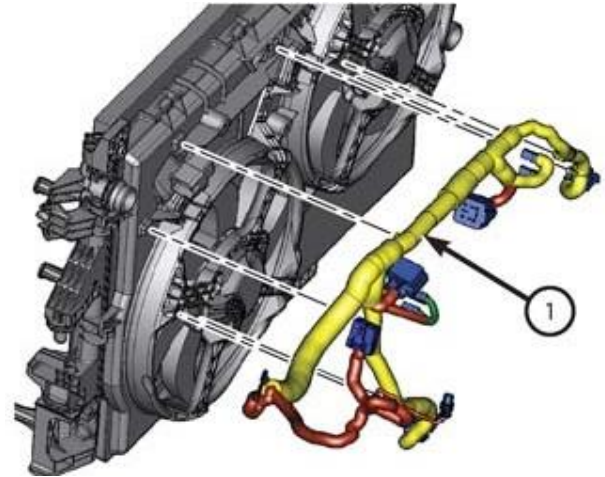

Figure 15 – Wire Harness Retainers
- From above or below as necessary, separate the wire harness (1) retainers from the cooling fan shroud (Figure 15).
- From below or above as necessary, install the wire harness (1) retainers to the cooling fan shroud (Figure 15).